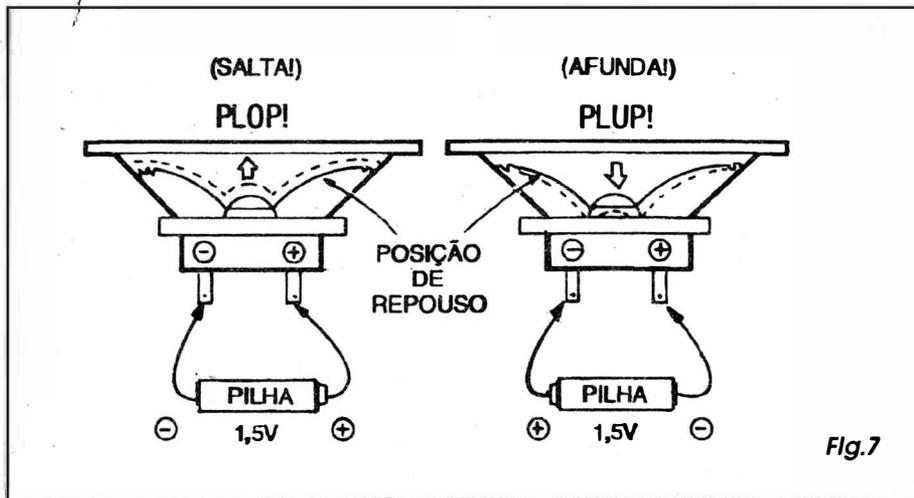

Fig.7
**- FIG. 7 - A POLARIDADE (OU FASE...) DOS ALTO-FALANTES... -**